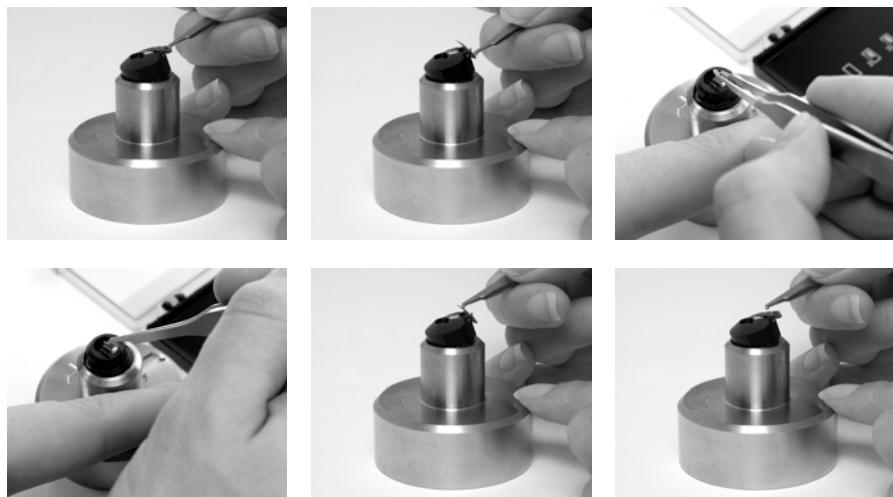

Figure 3-4: Replacing a cantilever. (Top) removing the old cantilever, (Bottom) mounting the new cantilever.
To maximize ease of use, the FlexAFM is designed in such a way that the cantilever can quickly be installed and removed without having to re-adjust the cantilever deflection detection system. The quick cantilever installation is possible because of a Cantilever Holder that can be removed from the Scan Head (*Figure 3-4: Replacing a cantilever*, left), and
- The Cantilever Holder Spring (see *Figure 3-4: Replacing a cantilever*) is very delicate. NEVER overstretch it! It will become bent and unusable otherwise!
- ① Use the Cantilever Tweezers or your finger to push onto the wide end of the CantiClip (*Figure 3-4: Replacing a cantilever*, top left).
- ② Gently push down until the CantiClip flips to its open position (*Figure 3-4: Replacing a cantilever*, top center).
- ③ Use the Cantilever Tweezers to remove the old cantilever from the Cantilever Holder (*Figure 3-4: Replacing a cantilever*, top right).
- ① Take the new cantilever out of its box with the cantilever tweezers.
- ② Place the cantilever carefully on the alignment chip (*Figure 3-4: Replacing a cantilever, top right*).
- ③ Verify that the cantilever does not move with respect to the Alignment Chip by carefully tapping on it with the tweezers (*Figure 3-4: Replacing a cantilever, bottom left*).
- ④ Use the cantilever tweezers or your finger to gently push on the narrow end of the CantiClip (*Figure 3-4: Replacing a cantilever*, bottom center image).
The CantiClip snaps into its closed position and firmly holds the cantilever in place (see *Figure 3-4: Replacing a cantilever*, bottom right). The cantilever is now securely attached and aligned.